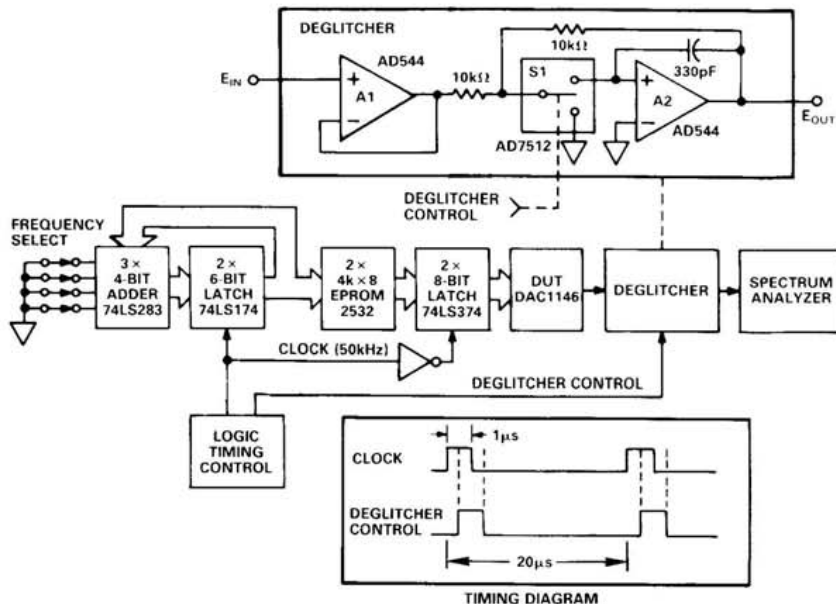

Figure 6. Block Diagram Harmonic Distortion Test Circuit
**Total Harmonic Distortion:** When the DAC1146 is used at 16 bits of resolution with a deglitcher as shown in Figure 6, the Total Harmonic Distortion (THD) for a full scale signal over the entire audio range 20Hz to 20kHz is typically less than 0.002% or -94dB.
The THD can be calculated from the following formula and verified by testing (see Figure 6).
When testing for THD the test equipment used must be distortion free so as not to mask the true performance of the device under test. The test circuit (see Figure 6) will produce a negligible amount of distortion when generating a test signal.